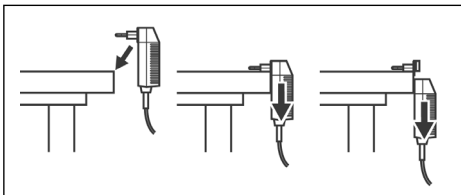

Fig. 4 SNT-121A: Changing the AC line plug adapter.
1. Place the SNT-121A against the edge of a table or bench as shown (see Fig. 4).